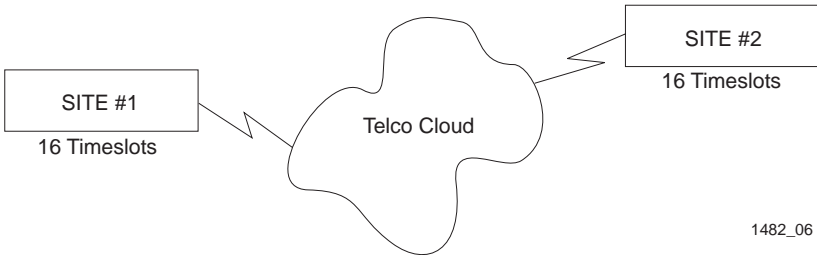

Figure 2-6 Fractional T-1 Configuration
This section provides step-by-step instructions for configuring the DELT1-UI to use a fractional T-1 circuit in a PPP environment. This example assumes the setup shown in Figure 2-6 using two hubs each with a WPIM containing a DELT1-UI. Configurations may vary depending on the hub. In a fractional T-1 setup, only a portion of the 24 Timeslots or DS-0s are used.
3. Insert an interface number (see the Note below) into every Timeslot being used (in the example shown in Figure 2-6, 16 Timeslots are being used, the rest have zeros in them). Type the number, press ENTER, then use the arrow keys to highlight the next Timeslot field. Exit this field by using the arrow keys. The cursor automatically moves to the **T1 Line Coding** field.